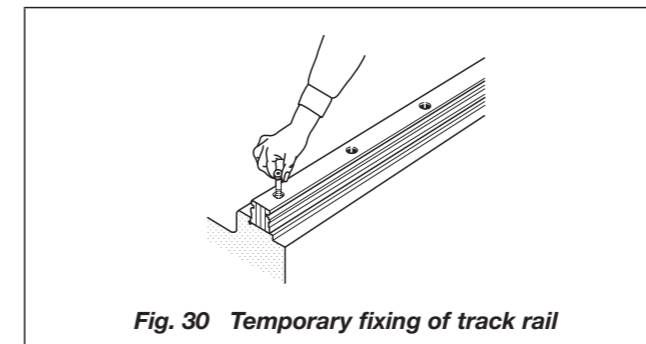

Fig. 30 Temporary fixing of track rail
②Temporary fixing of Linear Way I and II track rails
- Correctly fit the reference mounting surface of Linear Way I and II track rail onto the mating reference mounting surface of the bed, and temporarily fix the track rail with mounting bolts. (See Fig. 30.)